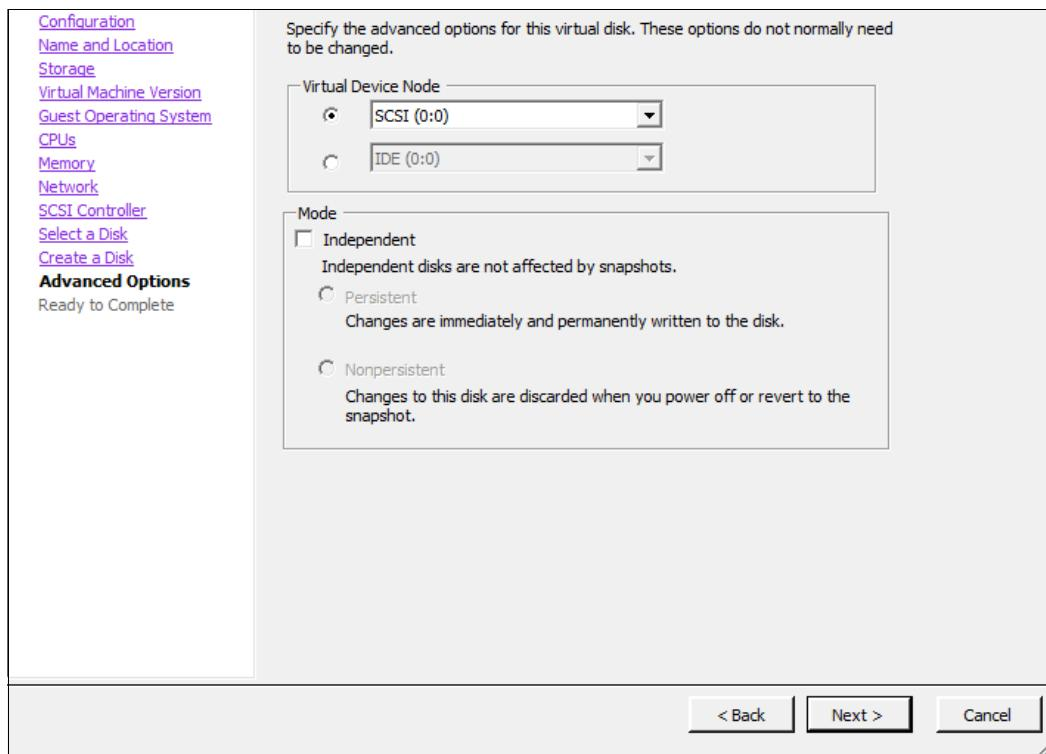

Figure 3-15 Advanced Options panel
13. In the Advanced Options panel (Figure 3-15), click **Next** to proceed.